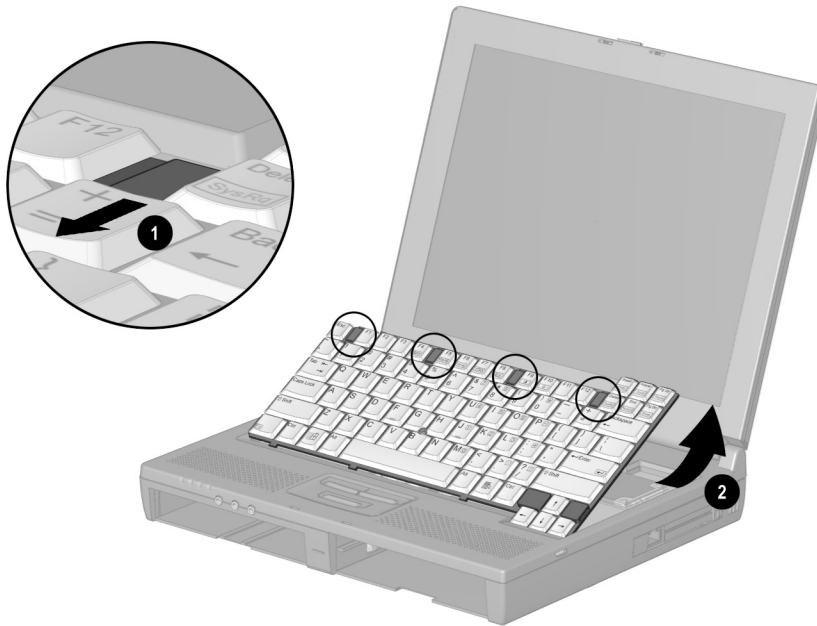

Figure 5-29. *Releasing the Keyboard Assembly*
8. Slide the four keyboard latches toward the front of the computer ❶ (Figure 5-29).
9. Lift the back edge of the keyboard up and swing it forward ❷.